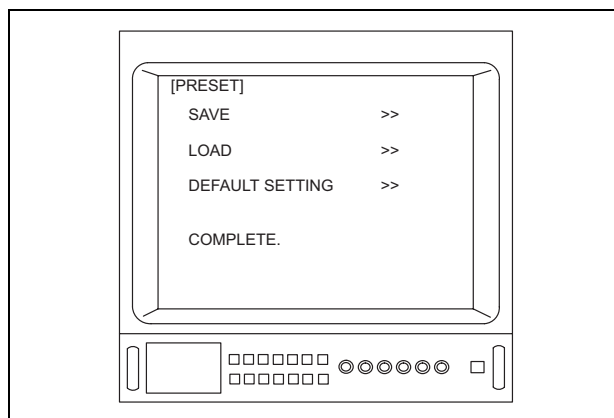

Figure 5.86
7. Depress the menu switch “◀” or the “Enter” key on the keyboard to restore the default settings. The menu shown in Figure 5.86 is displayed.